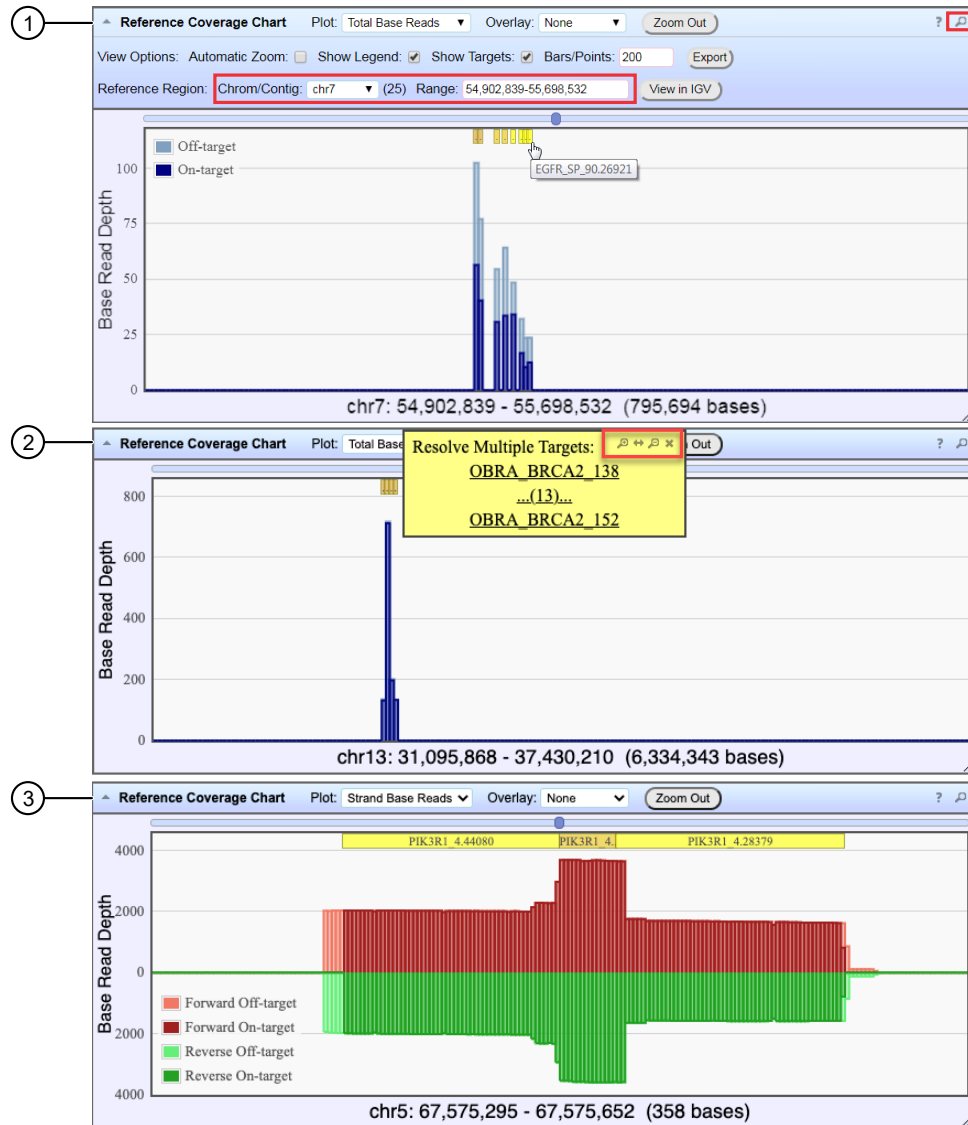

Figure 6 Representative Reference Coverage Chart
Many of the charts in the detailed **Coverage Analysis Report** include a **Plot** menu that allows you to change characteristics of the chart. For example, you can show both strands (see callout 3 in Figure 6).
- ① Example Total Reads plot with a Target GC percentage overlay
- ② Click on a bar to open the detail pane for the specific amplicon. Click **View in Reference Coverage Chart** to zoom in on the amplicon in the **Reference Coverage Chart** (see callout 3 in Figure 6).